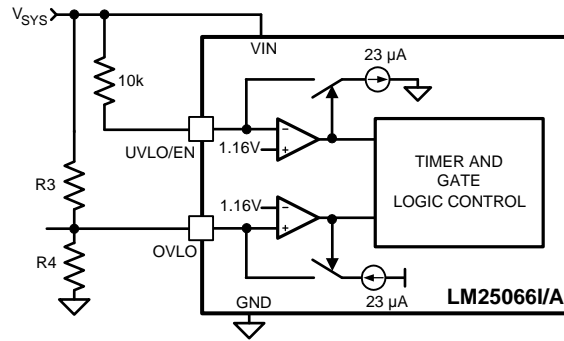

Figure 43. UVLO = POR
**Option C:** The minimum UVLO level is obtained by connecting the UVLO/EN pin to VIN as shown in Figure 43.  $Q_1$  is switched on when the VIN voltage reaches the POR threshold ( $\approx 2.6V$ ). The OVLO thresholds are set using R3, R4. Their values are calculated using the procedure in Option B.